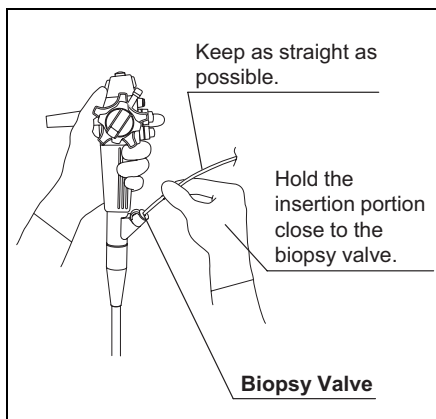

Figure 4.3
1. Carefully insert the instrument into the biopsy valve or T-plug (see Figure 4.3).
2. Carefully insert the instrument into the biopsy valve (see Figure 4.3).